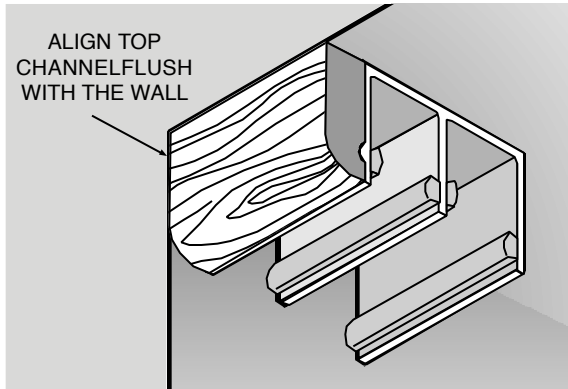

Figure 1
- C. When cut to proper length, install Top Channel (#2) up to the top front of closet opening making sure that the front of the Fascia on the Top Channel (#2) is flush with outside walls (See Figure 1). Hold up the Top Channel (#2) in the desired position and with your Pencil, mark where the pre-drilled holes are in the Top Channel (#2).